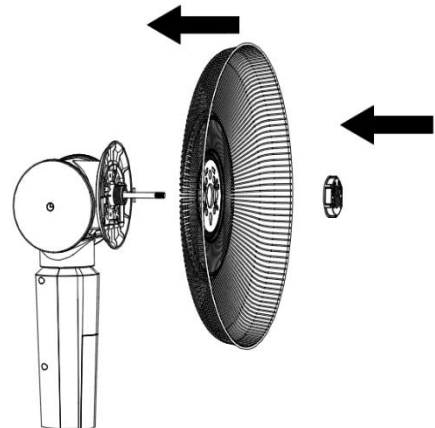

Figure 3
3. Mount the rear grill to the front cover of motor and align the 3 positioning points to the holes on the grill. Fix them with grill nut (Figure 3).